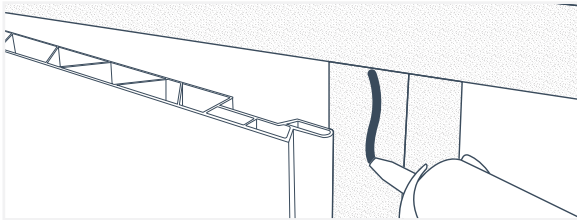

Fig. 35
7. Lift the tongue of the existing adjacent panel and apply a 1/2" thick bead of silicone along the stud behind it (Fig. 35).